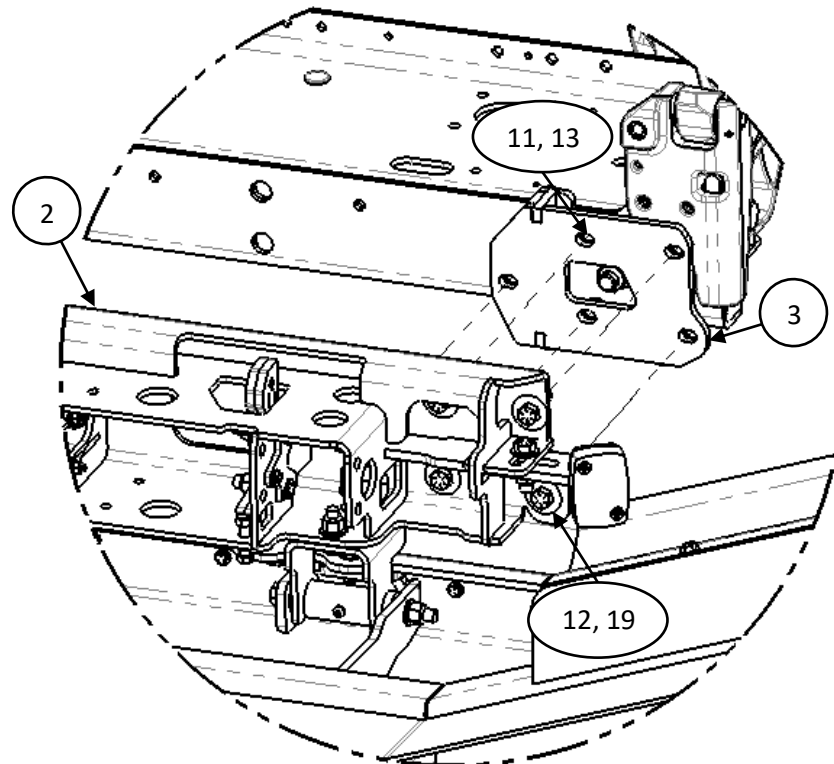

Figure 8 – Universal Bracket Side Mounting Location (Driver Side Shown)
9. Attach universal bracket (Item 2) to mounting brackets (Items 3). Level the bar to the truck and then tighten the fasteners (110 lb-ft). Use all the available slots for mounting. Note that the schematic view of the bracket may differ from what can be seen in Figure 8.